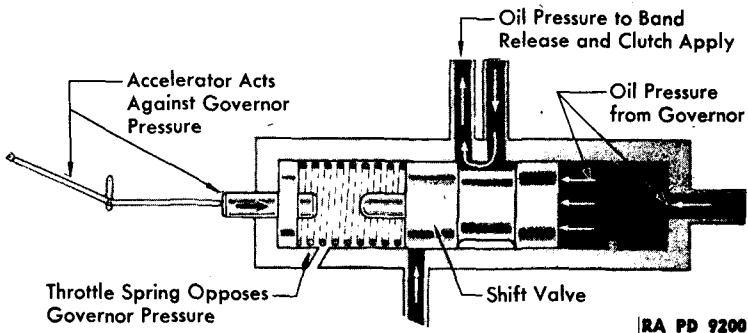

Figure 14 — Opposing Forces on Shift Valve
i. As the vehicle speed increases, the centrifugal force acting on the governor weight also increases and repositions the governor valve, so that a variable pressure from the governor is fed back to the control valve body. This pressure is directed to one end of the shift valve, tending to force it to the open position and upshift the transfer unit from reduction to direct drive. Spring pressure and throttle pressure on the opposite end of the valve act against the governor pressure and tend to oppose the upshift. Thus, the speed at which the upshift occurs is determined by the relation between throttle pressure and governor pressure (fig. 14).